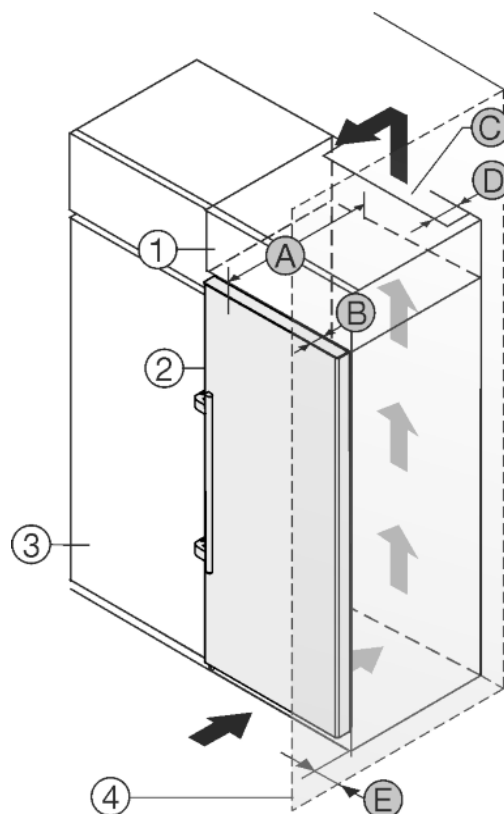

Fig. 30
The appliance can be built into kitchen units. A top cupboard *Fig. 30 (2)* can be added above the appliance in order to bring the appliance *Fig. 30 (1)* up to the height of the fitted kitchen units.
The appliance can be installed right next to the kitchen cabinet *Fig. 30 (3)*. The appliance must protrude by depth *Fig. 30 (B)* from the front of the cabinet so that the doors can be opened fully. The appliance may protrude further depending on the depth of the kitchen cabinets and whether wall spacers are used.
- At the back of the top cabinet, there must be an air outlet shaft with depth *Fig. 30 (D)*, spanning the entire width.
- The ventilation shaft *Fig. 30 (C)* must be observed under the ceiling.
If the appliance is installed with the hinges next to a wall *Fig. 30 (4)*, the distance *Fig. 30 (E)* between the appliance and the wall must be observed. This is how far the handle protrudes when the door is open.